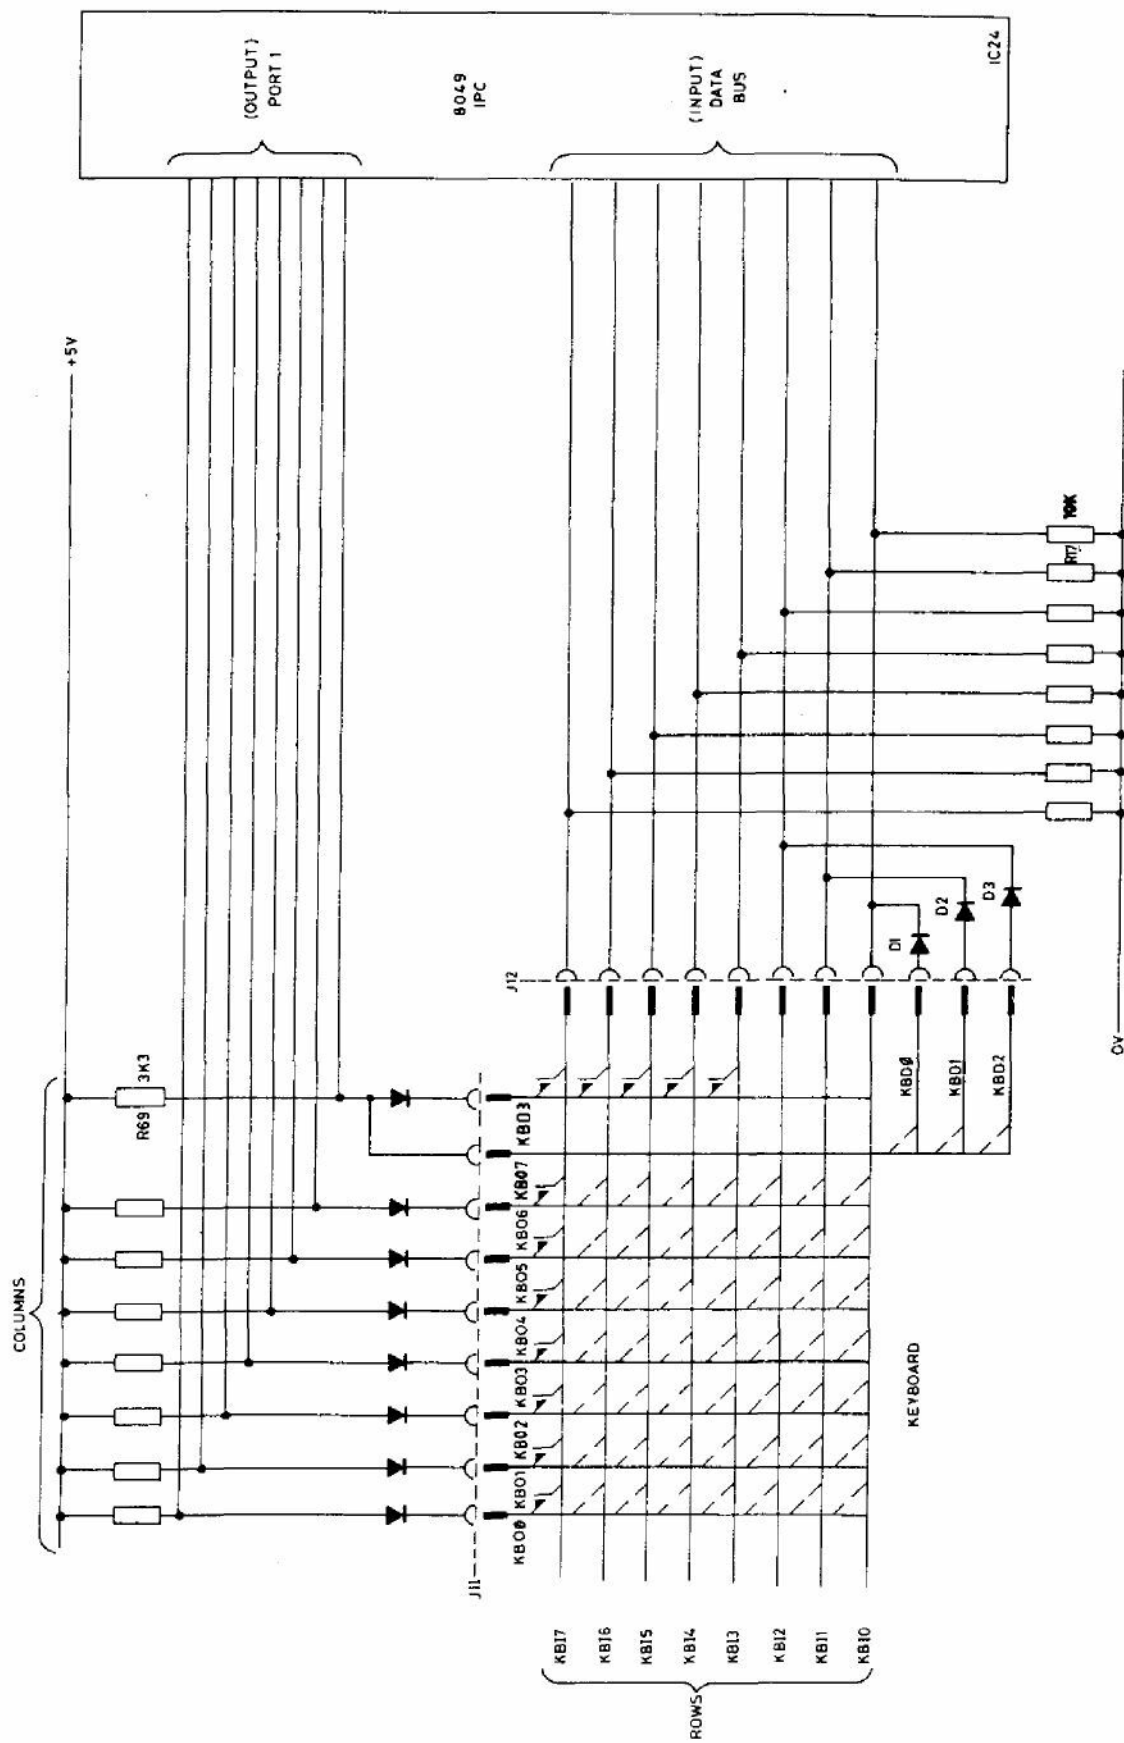

FIGURE 1.2 KEYBOARD MATRIX INTERCONNECTIONS
- 4.12 Keyboard Monitor. Under program control the 8049 systematically scans the keyboard, recording which keys have been pressed. Figure 1.2 shows the way the keyboard is connected. It consists of an 8 x 8 matrix with one key, the shift key, connected to three input lines. The intersection of each row and column is bridged by a normally open contact. Pressing the key closes this switch. The row 'outputs' and column 'inputs' are shown connected to separate connectors J11 and J12, one to the port 1 outputs of IC24 and the other to the data bus inputs. Pull-down resistors R17 to R24 ensure that when none of the key-switches are closed row inputs KB00 to KB07 remain low.